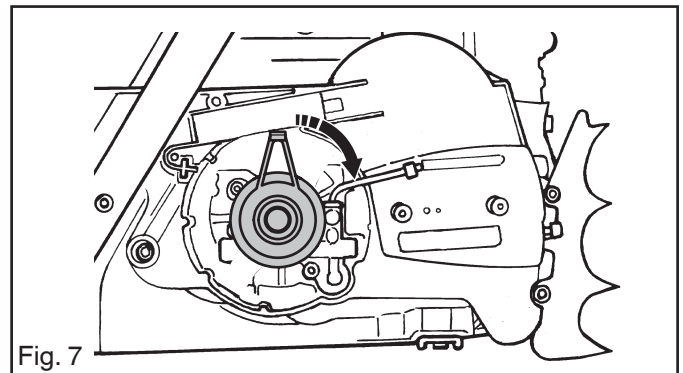

Fig. 7
8. Fit the drive wheel. See fig. 7.